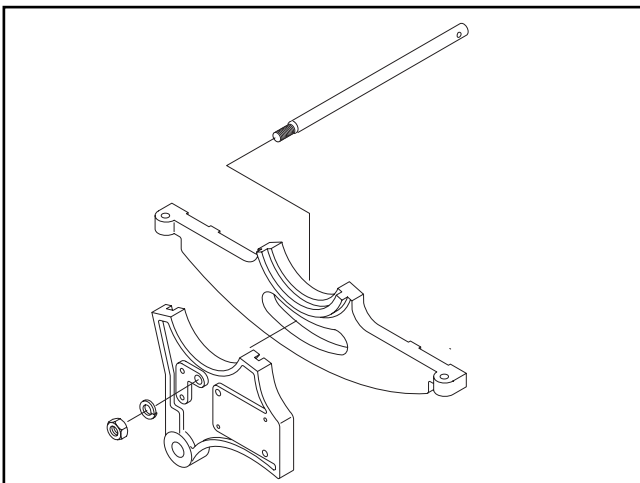

FIGURE 10B. Attaching guard support shaft.
1. Push the threaded end of the shaft through the hole in the back of the saw (**Figure 10B**) until the shoulder on the shaft stops it.